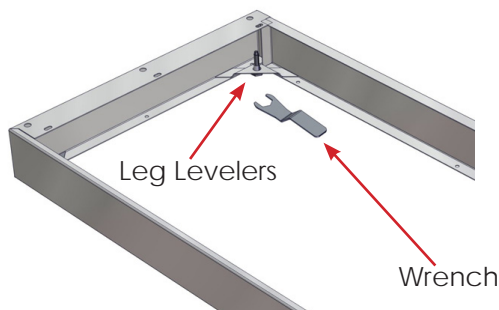

Fig. 9: Adjust Leg Levelers
2. If the cabinet ships with a separate base, place the base at the desired location for the cabinet. If Leg Levelers are provided with the base, use a level and the provided wrench (Part# IC07-01) to adjust the four leg levelers in the cabinet base until the base is level (Fig. 9)